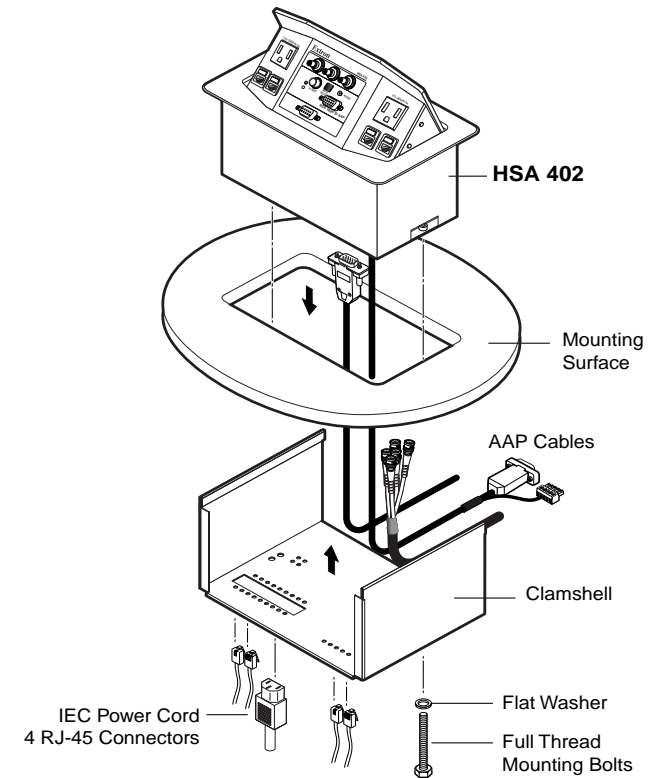

Figure 1-3 — Removing the HSA 402 from the table
4. On the underside of the table, remove the two bolts that secure the clamshell to the HSA (figure 1-3). Lift the enclosure out of the table. Ensure that the cables connected to the AAPs do not snag or pull on any protrusions.